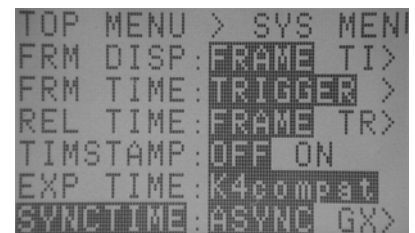

Figure3-45 SYNC SEL
- 3) Use the arrows   to select "SYNCTIME" from the SYS MENU (Figure 3-45).